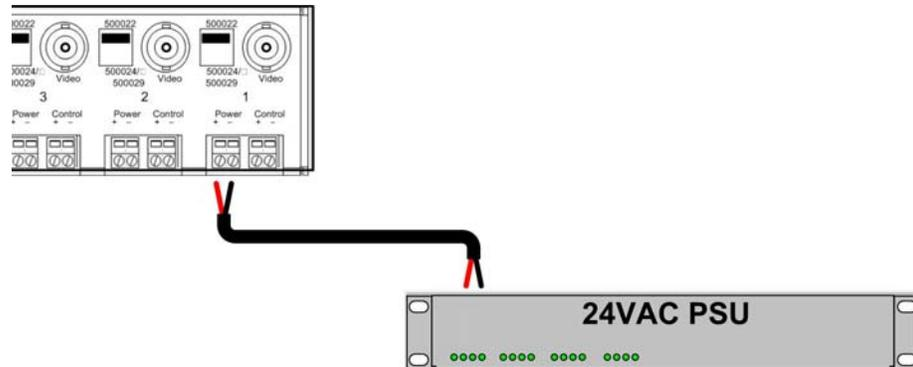

Figure 9: Remote power connection, Model 500130
8. If remote power is being transmitted to the camera, verify that the distance between the camera and the hub is within MuxLab specifications. Please consult the distance charts at the back of the installation guide. When the port switch is set to Pass-Thru Mode (500022), two (2) twisted pairs are used for remote power. When the port switch is set to Power-Thru Mode (500024/500029), three (3) twisted pairs are used for remote power thus supporting greater distance.
9. Connect two (2) wires between the power terminals of the hub to the remote low voltage power supply (fig 9). **It is recommended to use a Class II power supply with fuse protection on each output port.**